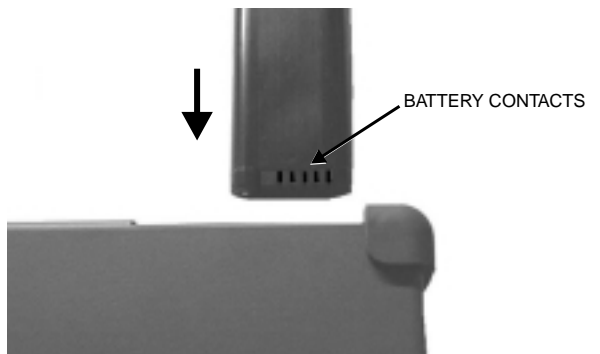

Figure 11. Battery Orientation
4. Grasp the battery lanyard and pull the battery straight up and out of the unit, as illustrated in Figure 11.
5. Replacement is the opposite of removal. Note the orientation of the battery contacts, and be sure to insert the new battery with the contacts facing the rear of the unit (Figure 11).